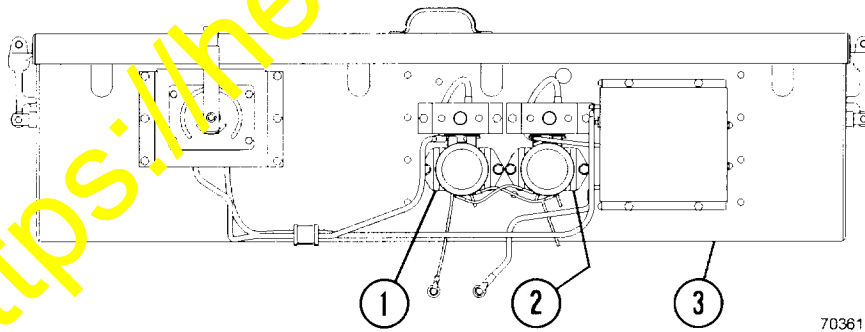

FIGURE 2. BATTERY BOX EXTERNAL COMPONENTS
Prior to installing new parts, the batteries should be cleaned of dirt and corrosion in order to prevent poor connections at the terminals. Verify that all connections have been properly mated before reconnecting power. The illustration below provides the location of the relay switches (1&2, Figure 2) in relation to battery box (3) after installation.